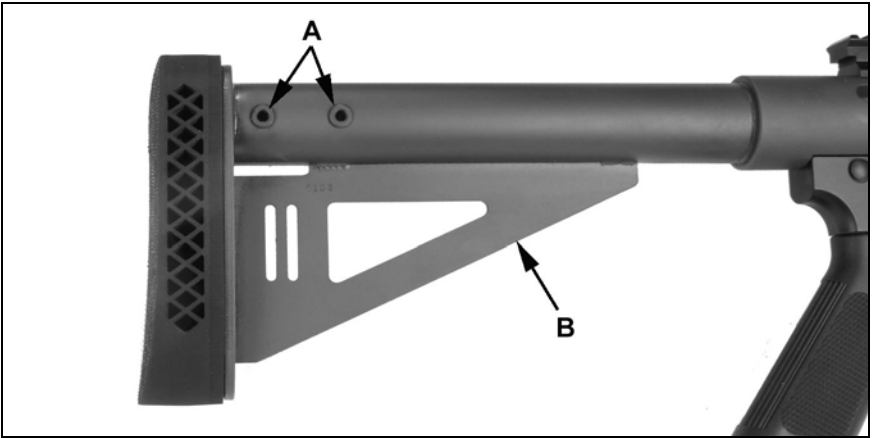

Figure 35
5. Install stock (B) and pins (A). See figure 35.